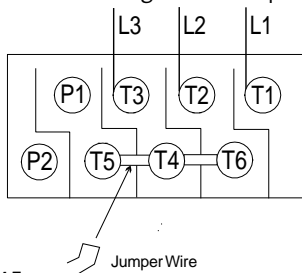

Fig.15
- Figure 15 for speed 1 - Low speed